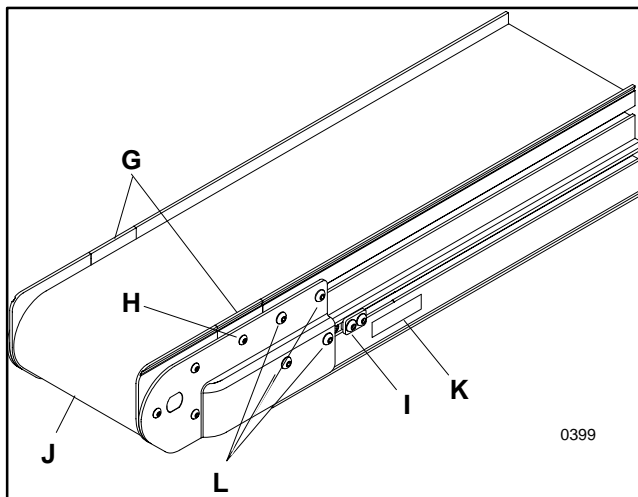

Figure 32
1. Locate the belt tension end (K of Figure 32) of the conveyor.